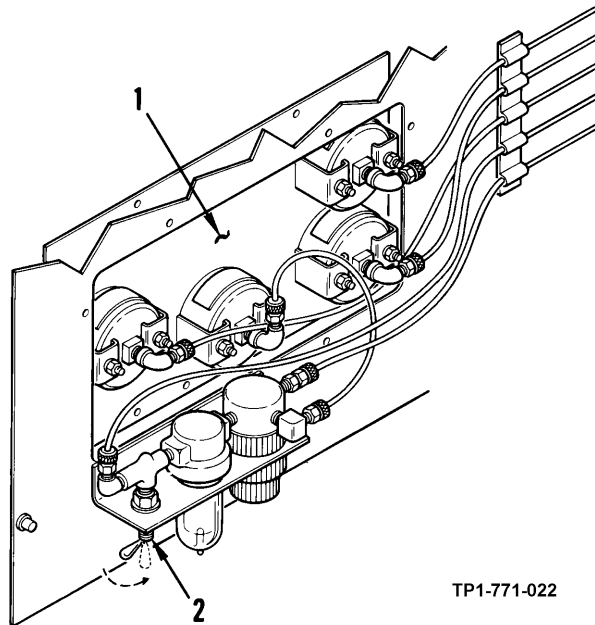

Figure 2-16. Toggle Valve Location
- (3) On rear of pneumatic control panel (1, figure 2-16), flip toggle valve (2) down (on). System should inflate and stabilize E/O test bench set. Measure gap at all four corners of base and verify that it is 1/4-inch to 3/8-inch. If all four gaps are not equal, refer to TM 11-6625-3081-23-4.